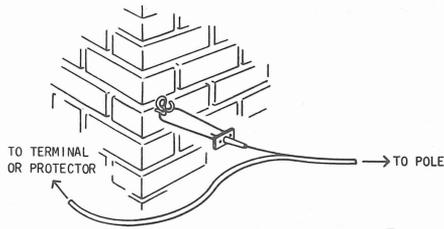

Fig. 9—Multiple Drop Wire Installed at First Building Attachment
- (1) Attach the multiple pair ASW to the building with the hardware described in Table A.
- (2) At the first attachment:
- (3) Crush the PVC jacket of the support wire between the handles of the diagonal pliers and remove the insulation.
- (4) Place a black plastic cable tie around the jacketed pairs and support wire at the point of separation to prevent further splitting of the web.
- (5) Install a No. 5056B wirewise (Fig. 2) or a DE-2506 dead end (Fig. 3) on the bare support wire and over drop wire hook (Fig. 9).
- (6) Toward the protector, slit the support wire for approximately 2 or 3 feet and remove that portion of support wire. Exercise caution not to damage the PVC jacket.